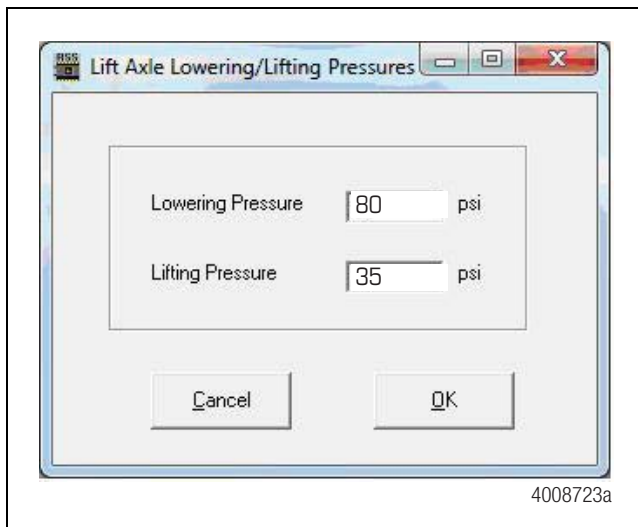

Figure 8
2. The Lift Axle Lowering/Lifting Pressures screen appears which allows you to enter the Lowering and Lifting Pressures. Figure 8.